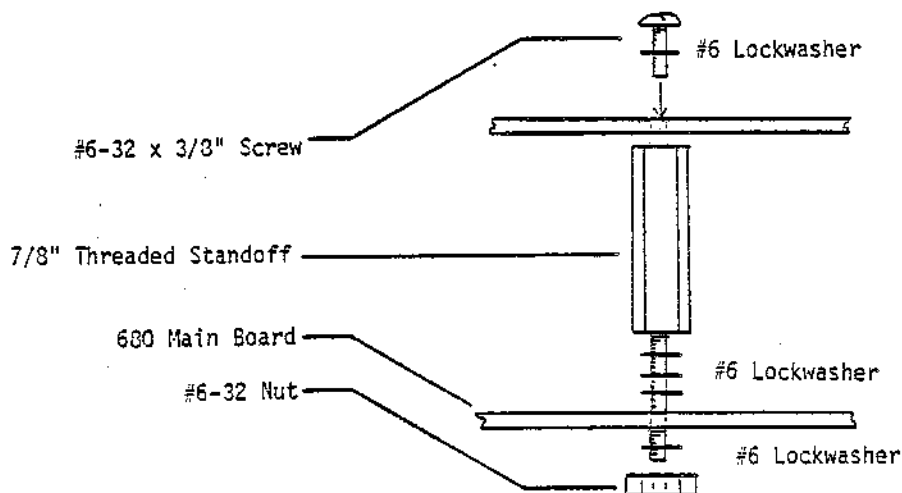

Figure 5-14. Installation of Threaded Standoffs Onto 680b Main Board
5-25. Installation of Threaded Standoffs Onto 680b Main Board (Figure 5-14)
1. Carefully remove the 680b Main board from the case. Referring to Figure 5-14, insert a #6-32 x 7/8" threaded standoff (Bag 5) with three #6 lockwashers (Bag 5) in the mounting holes provided on each side of the Main board.
4. Secure the board in place by inserting a #6-32 x 3/8" screw with a #6 lockwasher into the top of each of the threaded standoffs as shown in Figure 5-14.